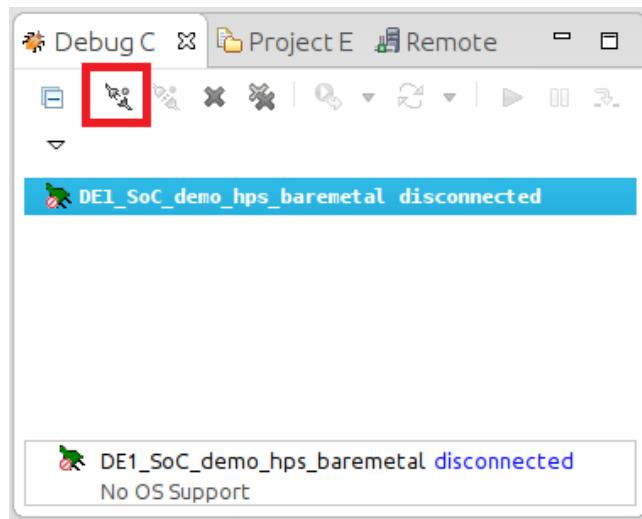

Figure 8-39. Debug Control View
23. In the “Debug Control” view, click on the “DE1\_SoC\_demo\_hps\_baremetal” entry, then click on the “Connect to Target” button, as shown on Figure 8-39. Our debug script will load and execute the preloader, then it will load and wait at our application's “main()” function.